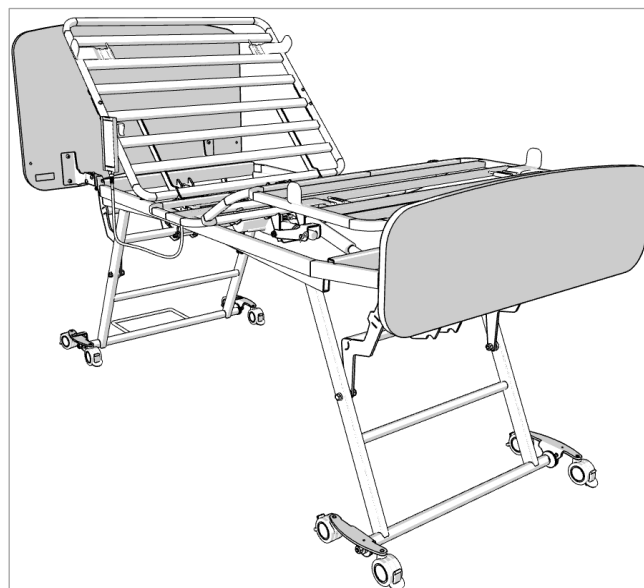

Figure 8.3
2. Refer to Section 9 for Handset operations. Using the handset, raise the bed to the highest position with raised backrest and footrest, as shown in Figure 8.3